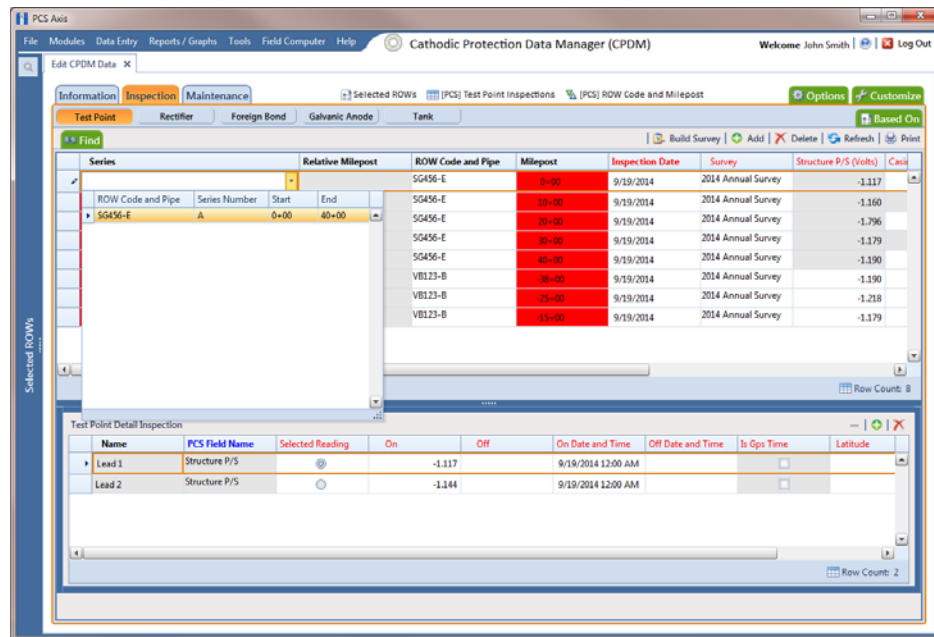

Figure 3-71. Pipeline Series
- 12 Open the data entry grid with the mileposts you want to apply pipeline *Series*, such as the *Test Point Inspection* data grid shown in the next example (Figure 3-71, page 118).